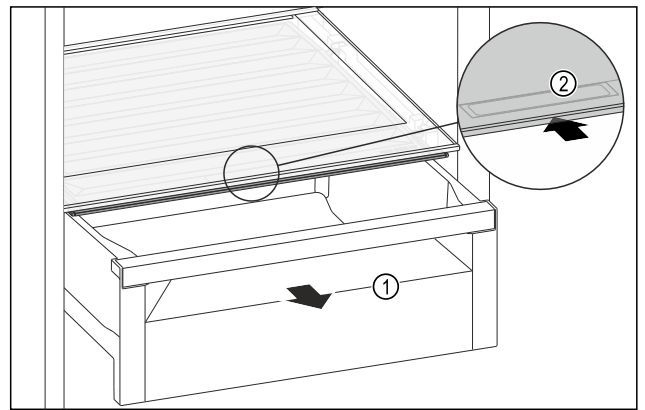

Fig. 112
- ▶ Pull out the drawer Fig. 112 (1).
- ▶ Grasp the recessed grip Fig. 112 (2) on the compartment lid and push the compartment lid backwards at the same time.